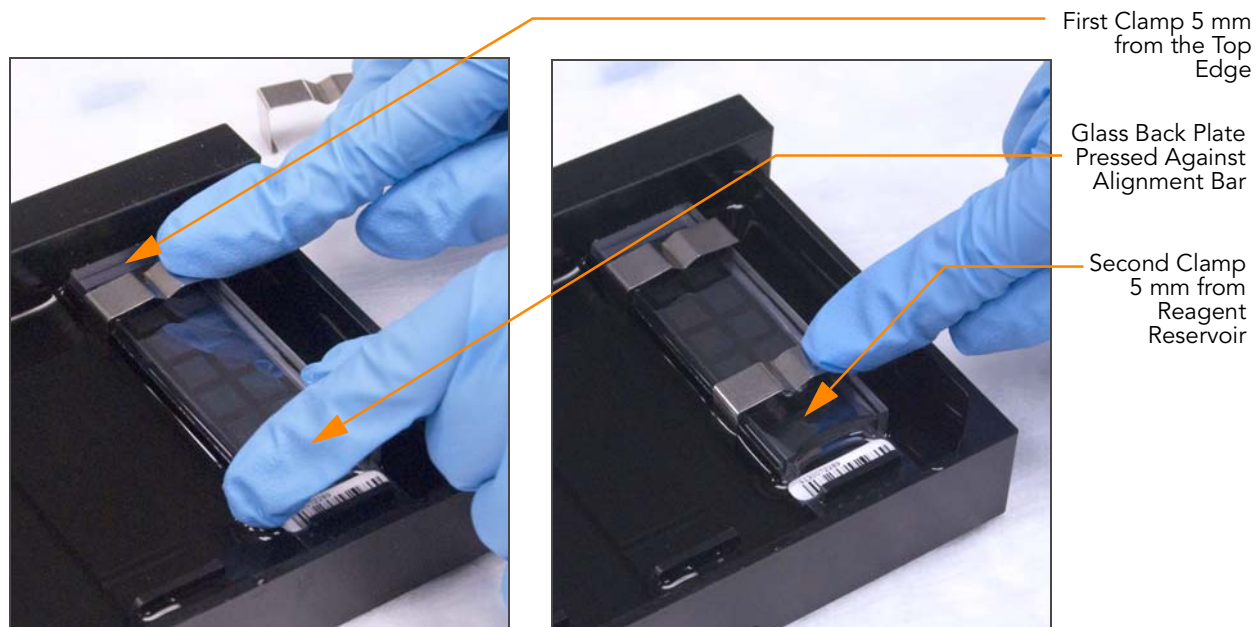

Figure 56 Securing Flow-Through Chamber Assembly with Metal Clamps
8. Attach the metal clamps to the Flow-Through Chambers as follows (Figure 56):